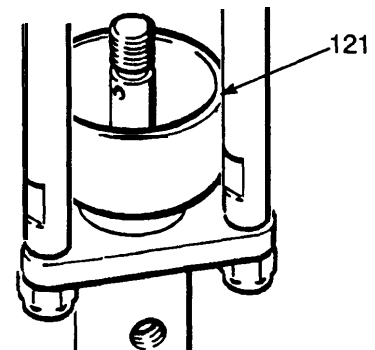

Fig 3
Fill the displacement pump wet-cup (121)  $1/3$  full with Graco Throat Seal Liquid or a compatible solvent, to prevent fluid from drying on the displacement rod or damaging the packings. See Fig 3.